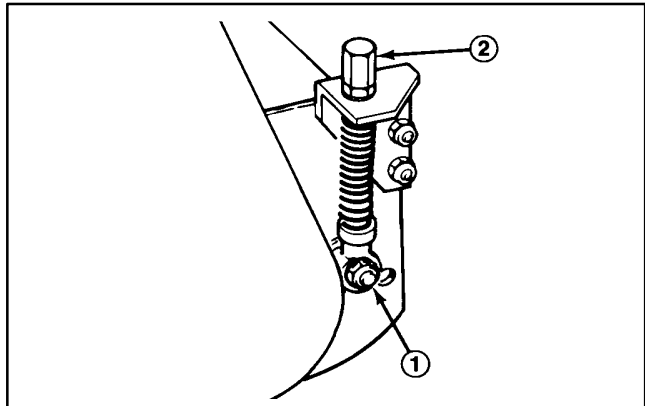

Figure 5
2. If no contact is determined, loosen adjuster locking nut on each adjuster (Fig. 5). Turn each adjuster knob equally and clockwise until light contact is felt and heard.